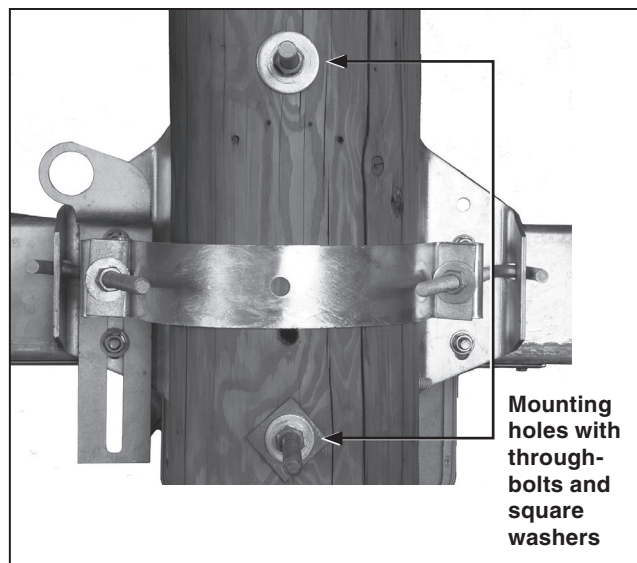

Figure 3. Drill two holes as specified on the catalog drawing. Insert the through-bolts.
STEP 3. Drill two $\frac{1}{4}$ -inch (17-mm) diameter holes in the front of the utility pole at the desired height for mounting the switch. See Figure 3. Refer to the catalog drawing. The centerline-to-centerline distance of the holes must be 14 inches (356 mm).
STEP 4. Insert two $\frac{5}{8}$ -inch diameter through bolts (not furnished) in the holes drilled in Step 3. Secure these bolts loosely with necessary washers and nuts in such a manner the heads of the bolts project sufficiently, approximately 3 inches (76 mm), from the face of the pole to engage the switch pole-saddle. See Figure 3.